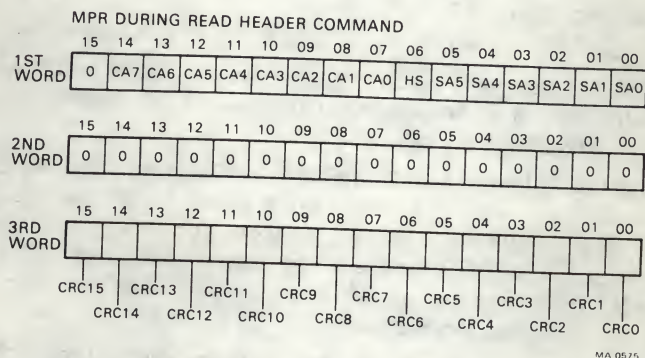

Figure 12 MPR Three Header Words
*MPR During a Read Header Command* When a read header command is executed, three words will be stored in the multipurpose register (FIFO output buffer). The first header word will contain sector address, head select, and cylinder address information. The second word will contain all 0s. The third word will contain the header CRC information. All three words are readable by the main program (Figure 12).